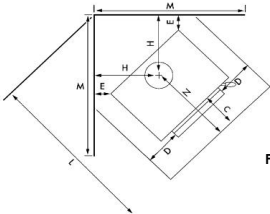
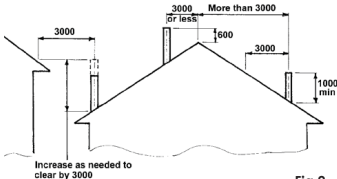

Fig 1
Fig 2
2. Select the location for the heater, bearing in mind the clearances required (Refer Table 1 and Fig 1 on next page).
The flue system should be vertical and without bends. If an offset is required, it should be as close to the heater as practicable and should not be offset more than 500mm from the centreline of the flue stub. Clearances from the flue pipe to combustible materials must be maintained (refer Table 1 and Fig 1). Restrictions or leaks in the flue system may reduce the draught, and, in severe conditions, could cause smoke to enter the room. The flue pipe shall extend not less than 4.6m above the top of the floor protector. The flue cowl must be at least 600mm above the highest point of the roof if within 3 metres of it, or 1000mm above the roof penetration if more than 3 metres from the ridge. No part of the building, or any adjacent building may be in, or above, a circular area of a horizontal radius of 3 metres from the flue exit (Fig 2 *).